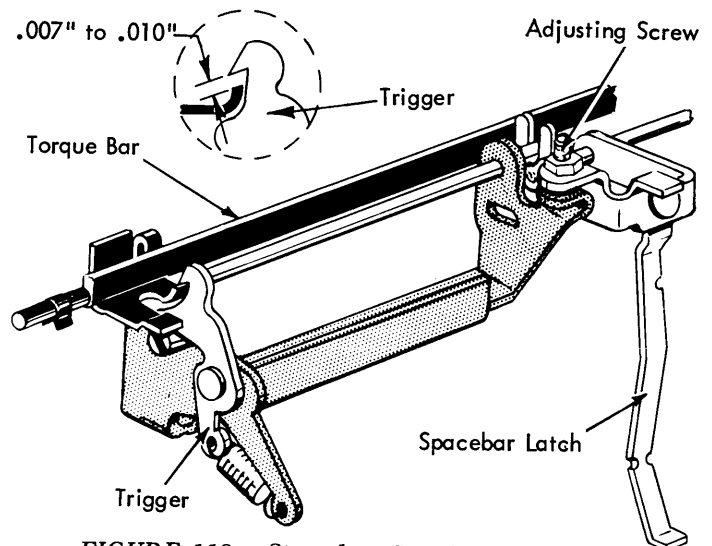

FIGURE 112. Spacebar Latch Lever Screw (Long Carriage)
2. Spacebar Latch Lever Screw - Adjust the screw so that .007" to .010" clearance exists between the escapement trigger and the escapement torque bar (Fig. 112). Disconnect the escapement trip link before making this adjustment.